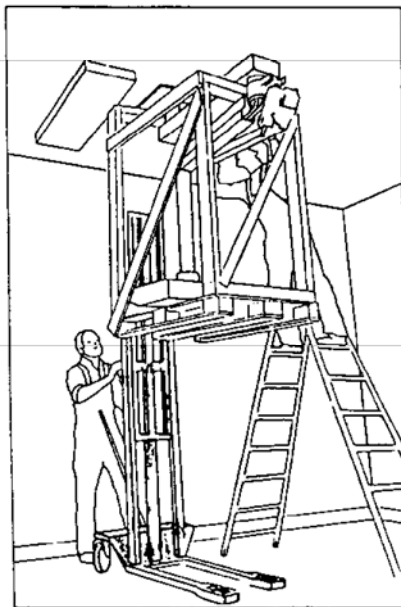

Figure 5. Lifting Pendant into position with fork lift.
6. Carefully lift the pendant into position using a hand operated fork lift as shown in Figure 5.